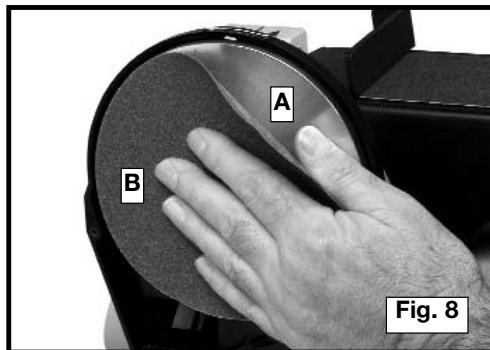

Fig. 8
- Clean the sanding disc plate (A) Fig. 8.
- Peel the backing from sanding disc and press the disc (B) firmly into position all the way around the sanding plate (Fig. 8).